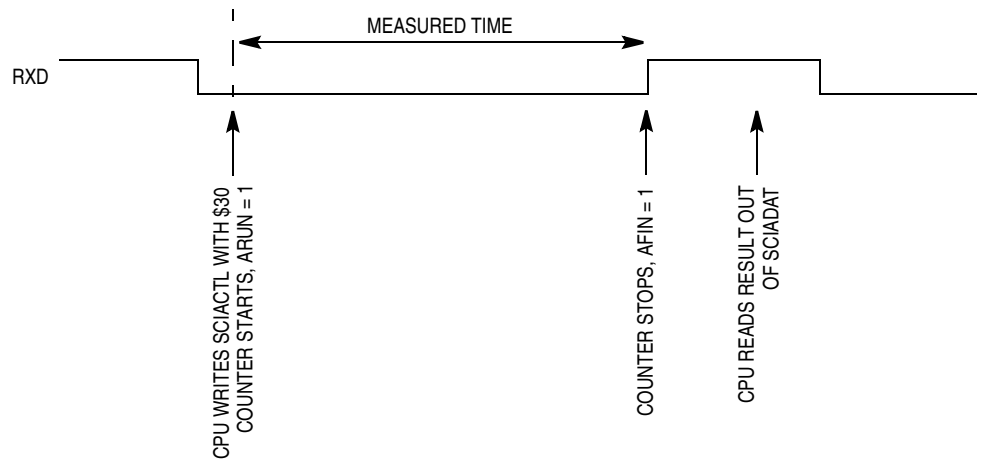
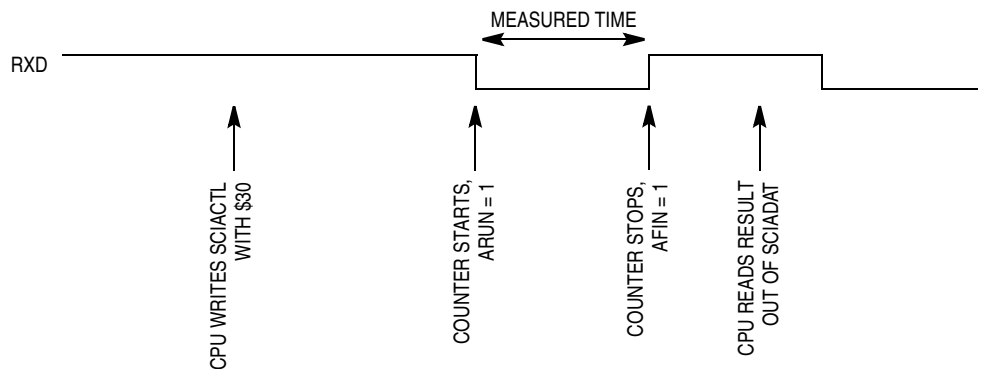

Figure 15-22. Bit Time Measurement with ACLK = 1, Scenario A
Figure 15-23. Bit Time Measurement with ACLK = 1, Scenario B
2. **ACLK = 1** — The counter is clocked with one quarter of the ESCI input clock generated by the ESCI prescaler. The counter is started when a logic 0 is detected on RxD (see Figure 15-22). A logic 0 on RxD on enabling the bit time measurement with ACLK = 1 leads to immediate start of the counter (see Figure 15-23). The counter will be stopped on the next rising edge of RxD. This mode is used to measure the length of a received break.